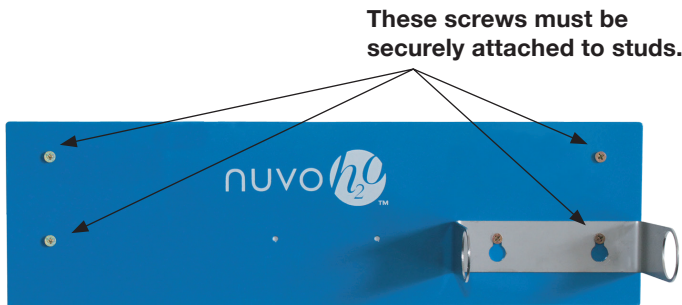

FIG. 1
- 3 Attach C-Bracket horizontally to Wall Mounting Panel under “Softener” label. The right C-Bracket screw should go through the Wall Mounting Panel into the wall stud. Another screw attaches the Wall Mounting Panel to the wall stud directly above the right C-Bracket screw. See FIG. 1